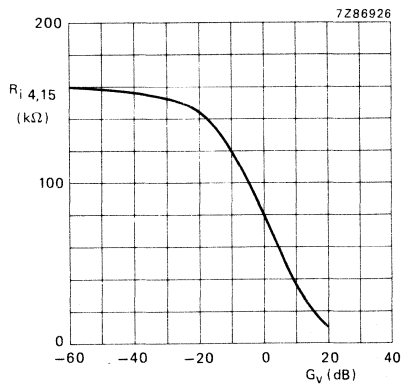

Fig. 4 Input resistance (R_i) as a function of gain of volume control (G_v). Measured in Fig. 1.
- Equation for input resistance (see also Fig. 4)